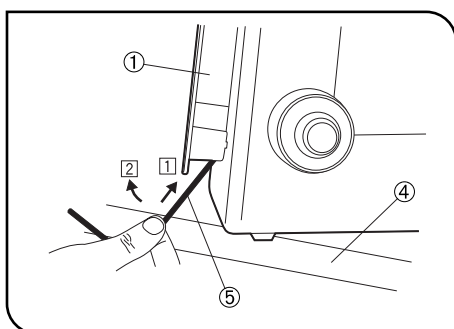

Fig. 30
Move the microscope frame to the edge of the table ④, apply an Allen wrench ⑤ onto the lower part of the cord hanger ①, and move the entire hanger upward by pushing the Allen wrench toward the directions ① and ② to remove. (Fig. 30)